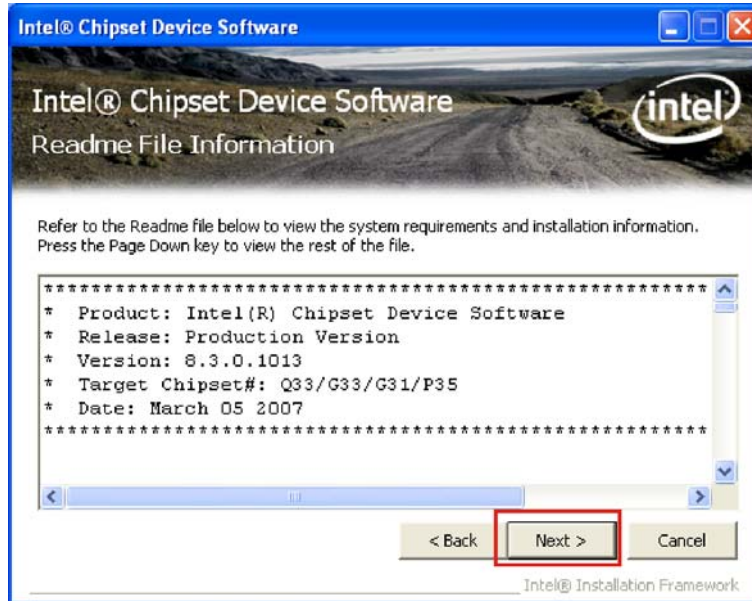

Figure 7-6: Chipset Driver Read Me File
Step 14: The Read Me file in Figure 7-6 appears.